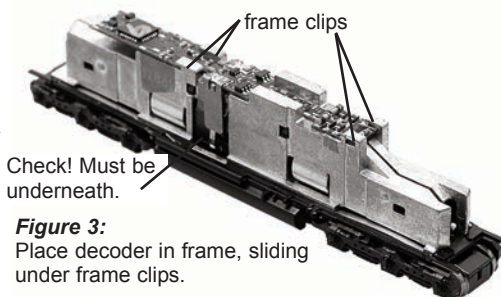

Figure 3: Place decoder in frame, sliding under frame clips.
3. Install the DN163K1C decoder by tilting it slightly as you insert the front corners into the forward frame clips. Press the decoder motor clips down over the motor contacts and slide the decoder board forward so the board's corners are under the frame clips. Figure 3.
5. Replace the locomotive shell. Digitrax decoders are set up with configuration variable (CV) default values so you can run your locomotive right away using address 03.